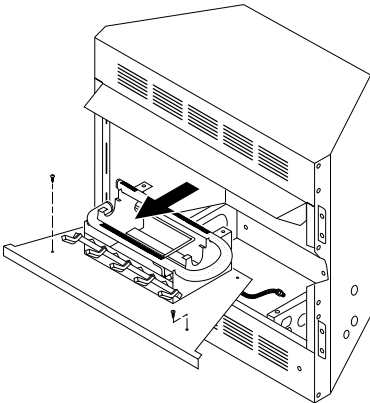

Figure 23 - Removing Log Base Assembly From Fireplace
- Remove screws that attach log base assembly to fireplace (see Figure 23). Carefully lift up log base assembly and remove from fireplace (see Figure 23).